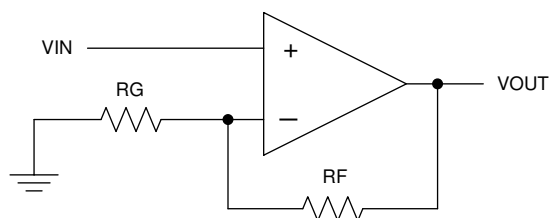

图 11-1. Schematic Representation
- Place the external components as close to the device as possible. As shown in 图 11-1, keep RF and RG close to the inverting input to minimize parasitic capacitance.